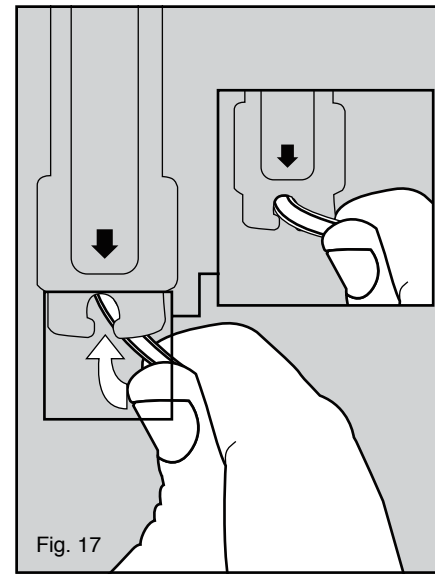

Fig. 17
18. Position the clear tube on the signal cable into the notch on the bottom of the support shaft (see figure 17).